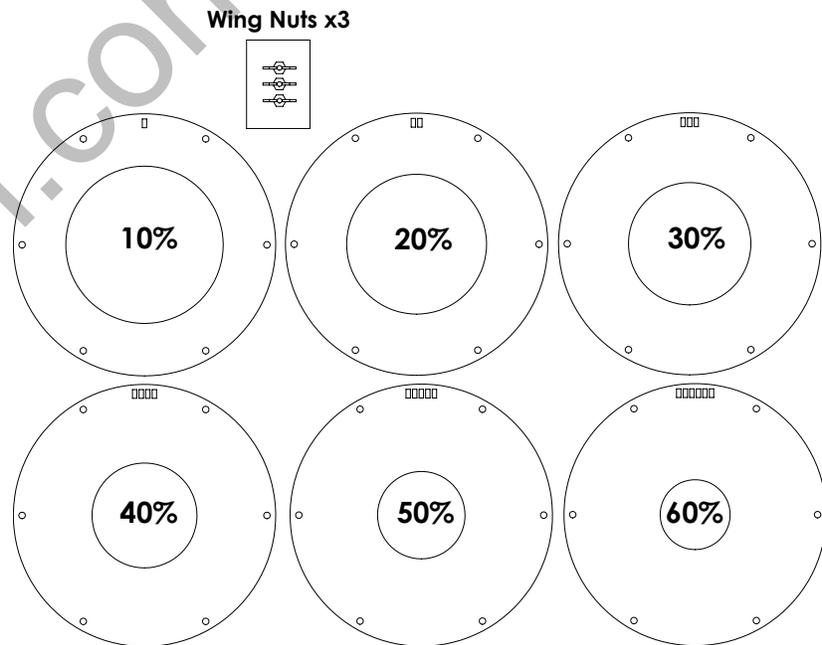

Figure 51: Restrictor Ring Kit
**Note:** There are six different restrictor sizes, they are marked with rectangular holes which coincide with the percentage of restriction (Figure 51).